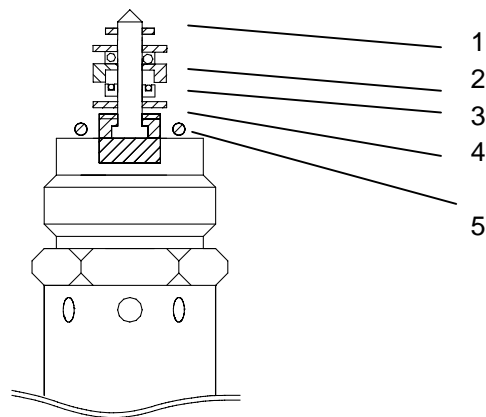

Fig. 10. Piston wash assembly, micro pump head
1. For the micro pump head the piston wash seals (figure 10, 3) are integrated in the flushing tube ((figure 10, 2) Remove the piston wash seals from its seat in the flushing tube using the seal replacement tool.